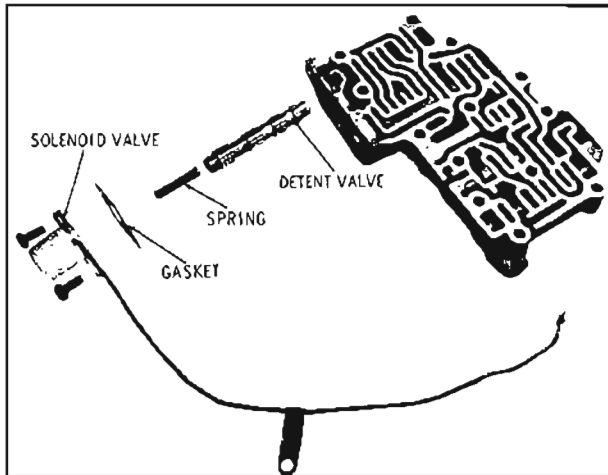

Fig. 6-314 Installing Detent Valve and Detent Solenoid
4. Install detent valve and spring. Install gasket to solenoid with notch facing bottom of valve body. Install solenoid to valve body using two 7/16" bolts. (Fig. 6-314)